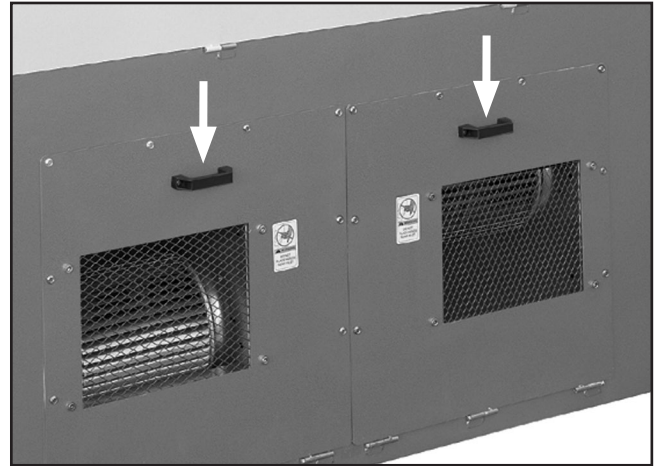

Figure 11. Outlet plate handles mounted.
- Using $\frac{1}{4}$ "-20 x $\frac{5}{8}$ Phillips head screws, mount the handles on the outlet plates at the rear of the downdraft table as shown in **Figure 11**.